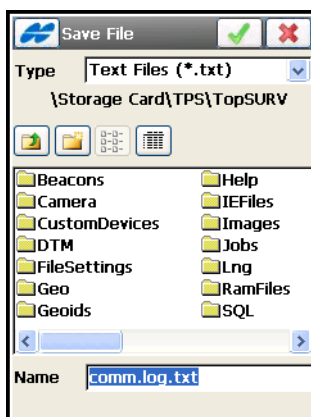

Figure 2-12. Save File
2. Check mark the *Log to file* box to save the data to a file. When the **Save File** screen (Figure 2-12) displays, assign a name and select a desired directory in the controller to save the file.